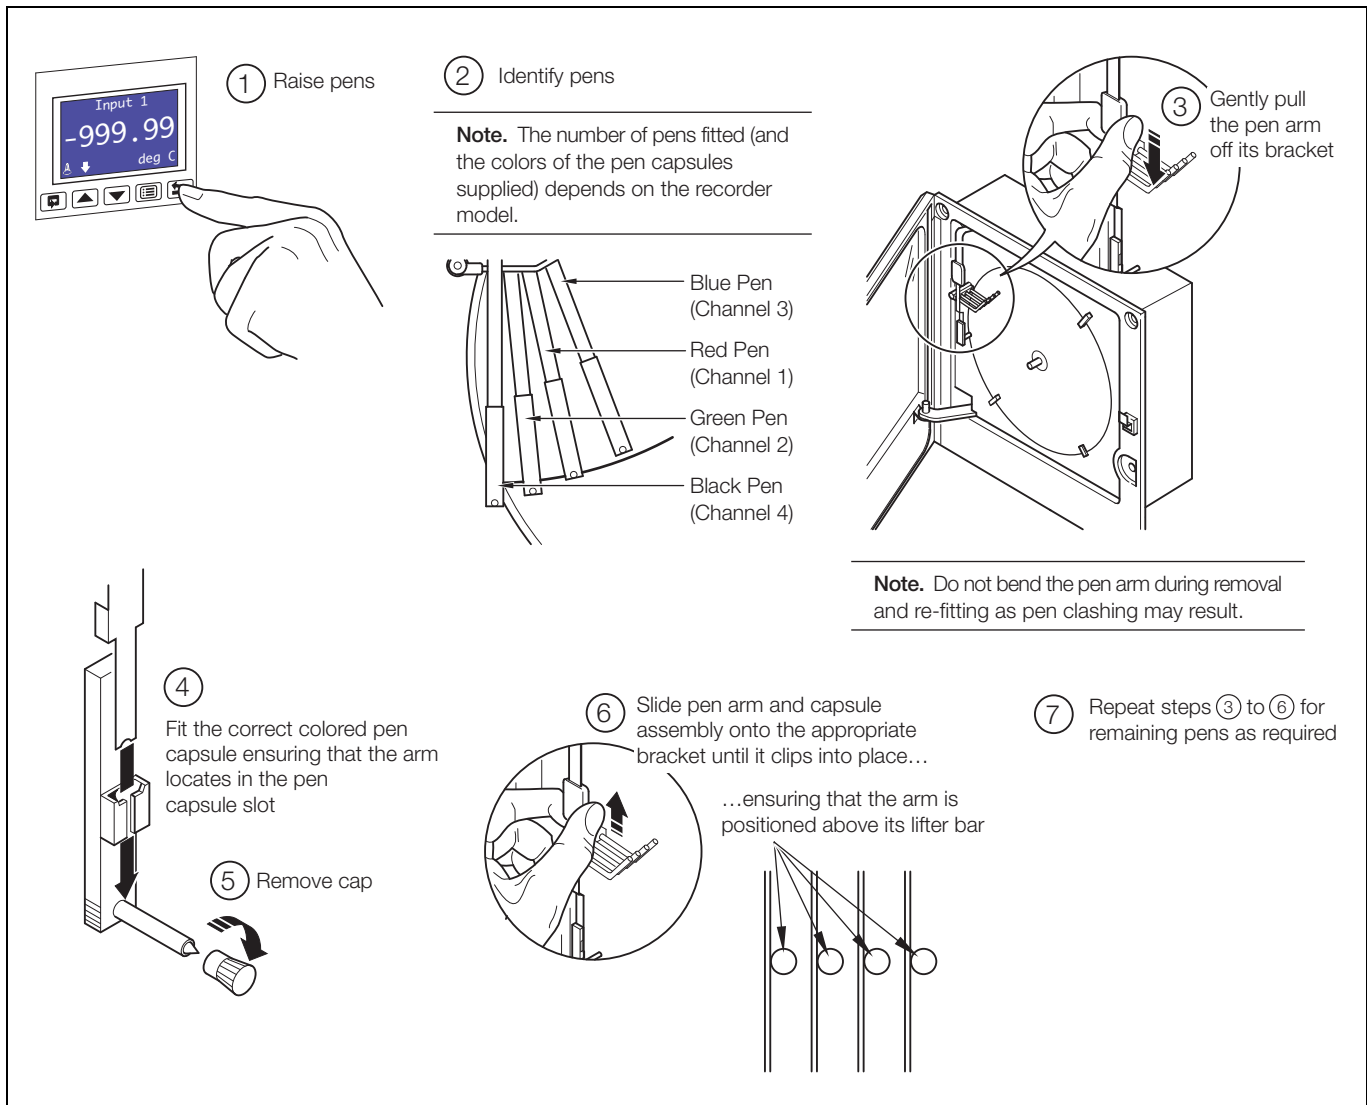

Fig. 1.1 Fitting the Pen Capsule(s)
4. Fit the pen capsule(s) – see Fig. 1.1.
- Ensure the correct colored capsule is fitted to the appropriate pen arm. Each pen arm is identified by a colored band – see Fig. 1.1.